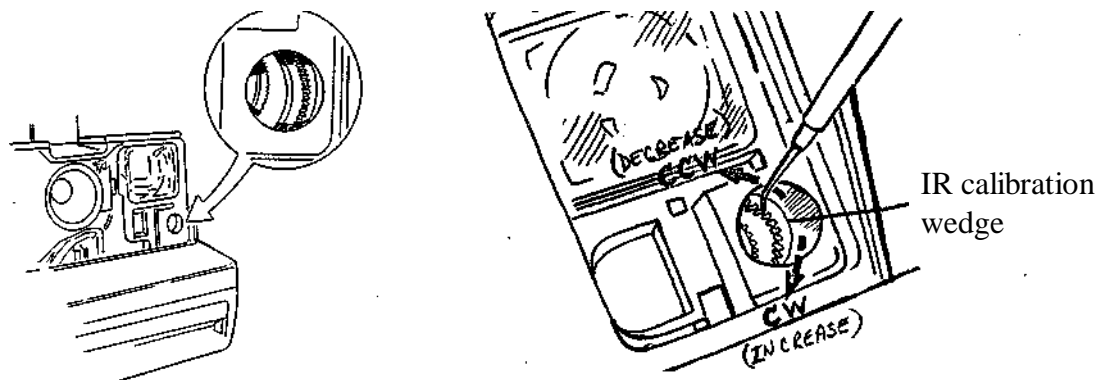

Fig. 6 Adjusting IR Calibration Wedge
- b. Using a dental pick, narrow-bladed screwdriver or other suitable tool, adjust the IR calibration wedge (see Fig. 6). Move the IR calibration wedge counterclockwise (CCW) to decrease the reading or clockwise (CW) to increase the reading (see Fig. 6).